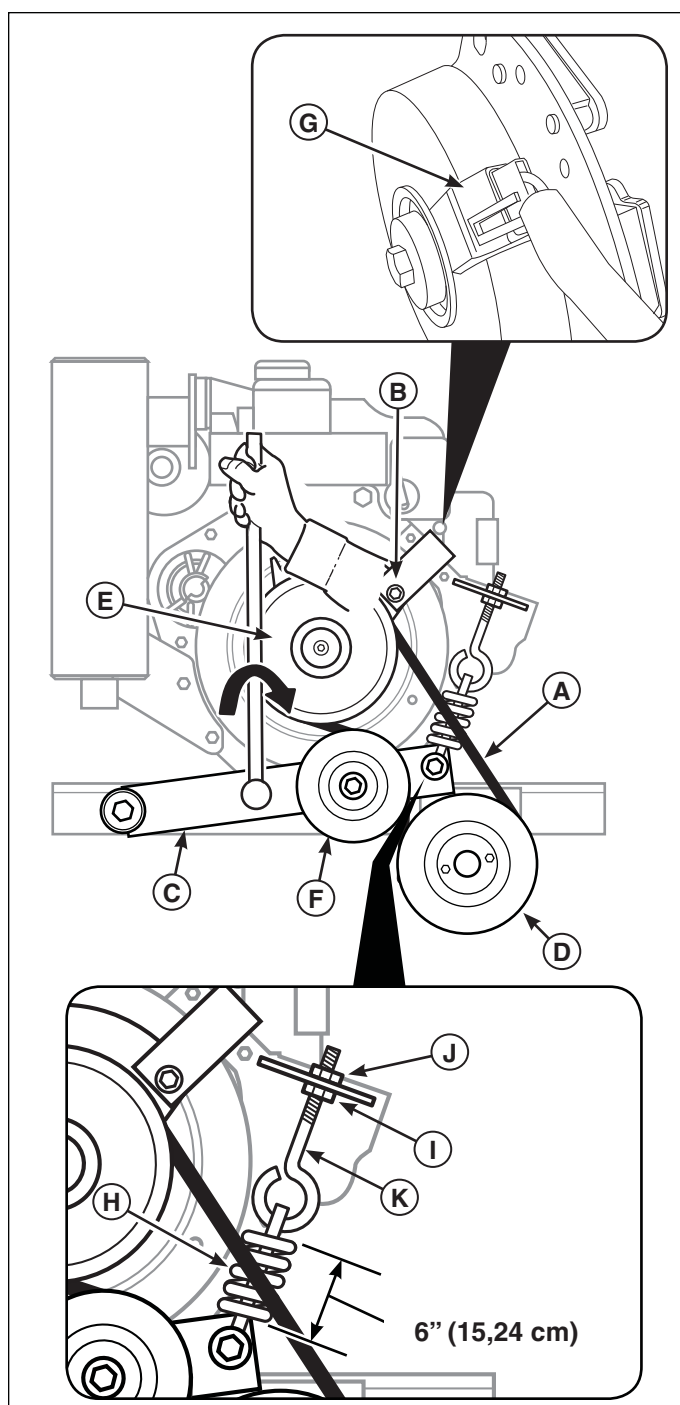

Figure 12. PTO Clutch Belt Replacement
1. Install the spring adjustment eyebolt (**K**, **Figure 12**) into the anchor and loosely install with a new 3/8-16 nylon flange nut (**J**).